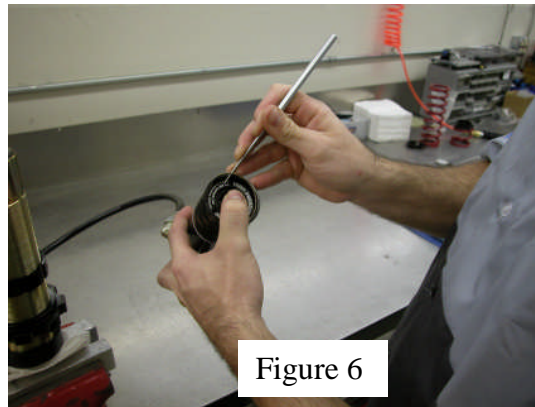

Figure 6
11. Depress the reservoir end cap to expose the wire-retaining ring. Use a scribe or dental pick to remove wire ring. Use extreme caution not to scratch the bore of the reservoir tube. A thin valve shim can also be used to remove the ring. **(Figure 6)**